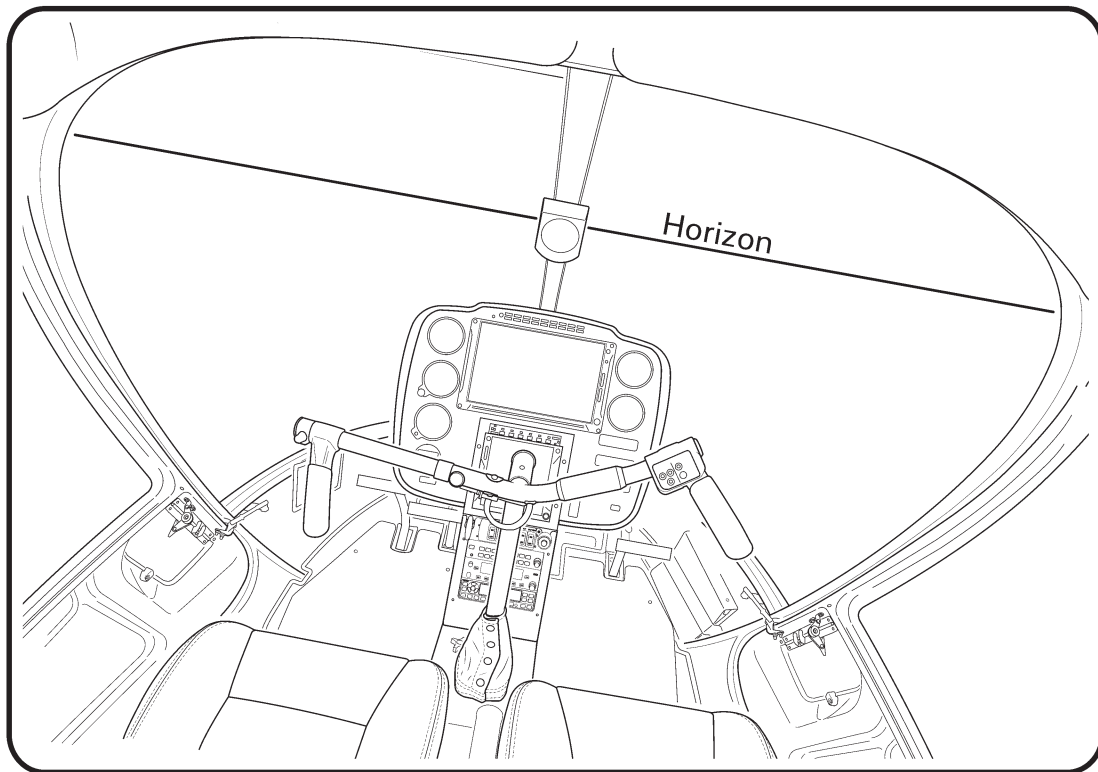

FIGURE 6 Camera view angle
- d. If horizon slants to the right (as shown in Figure 6), adjust angle by loosening two NAS1352-04-4 screws holding lens (see Figure 3) and rotate lens counterclockwise while facing lens; if horizon slants to the left, rotate lens clockwise. Tighten screws. Repeat steps b & c.